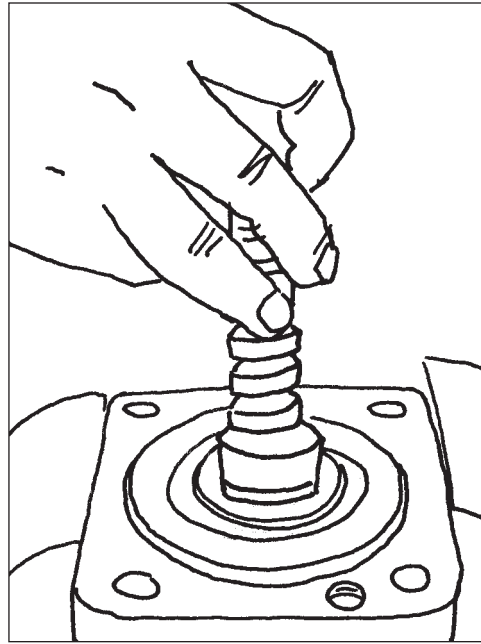

Figure 67
7. Carefully slide the valve shaft out of the bearing cap. Do not turn the shaft when removing (Figures 67 & 68).